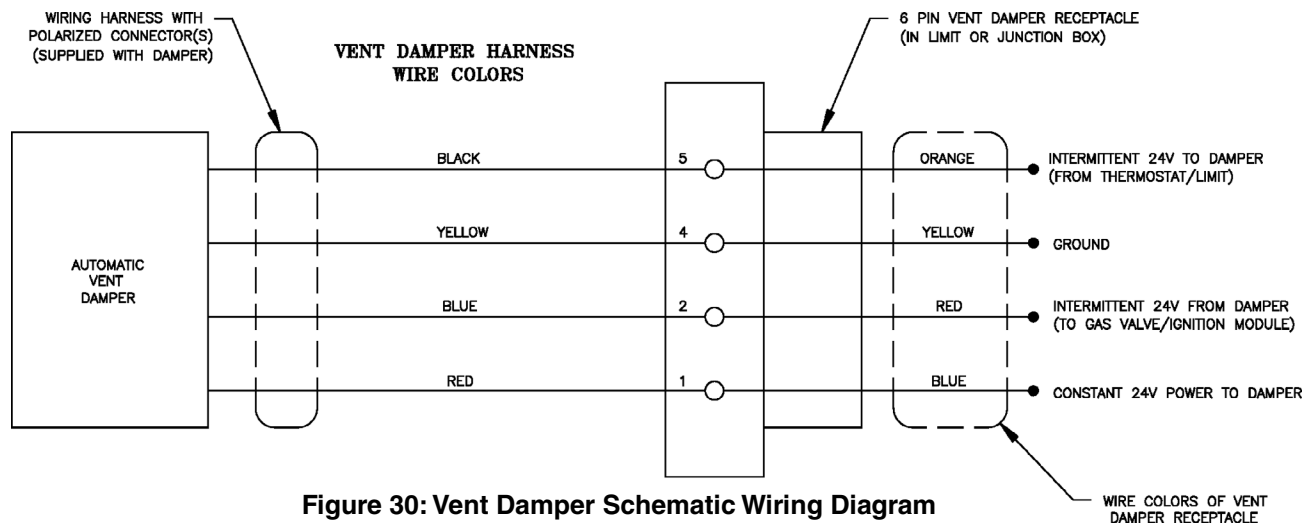

Figure 30: Vent Damper Schematic Wiring Diagram
1. Vent Damper Sequence of Operation. See Figure 30.